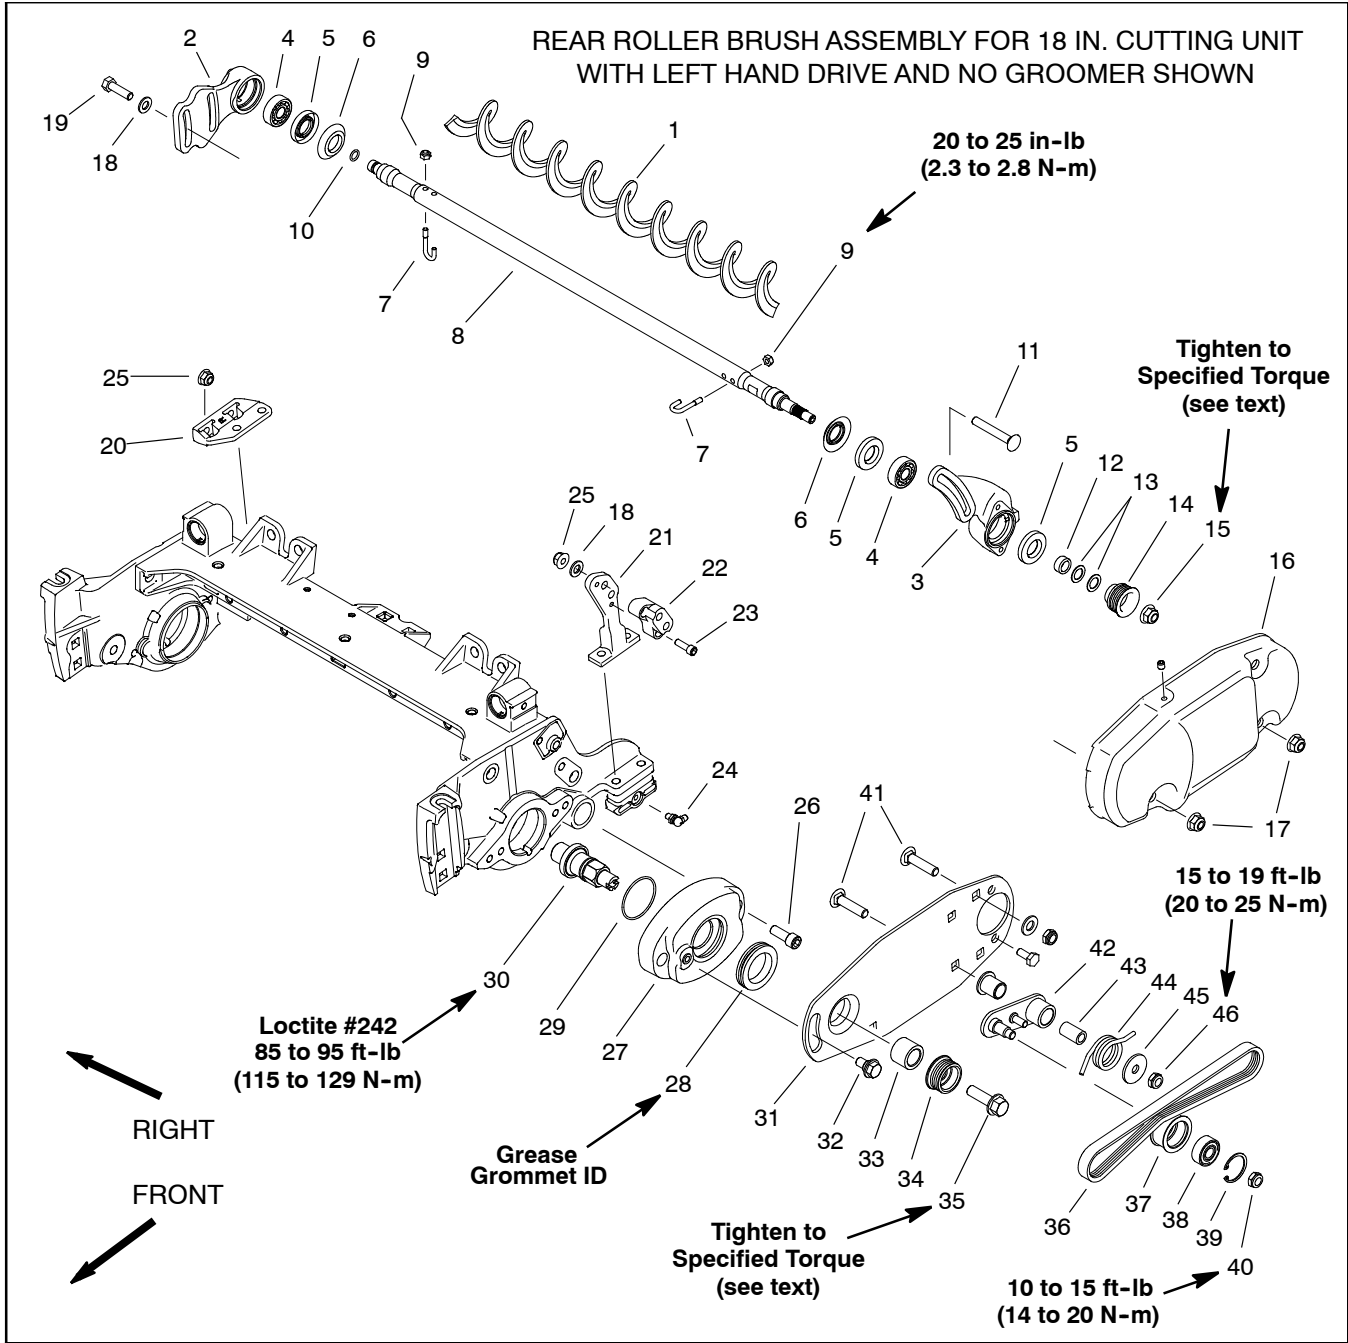

Figure 54
Rear roller brush drive components are located on the opposite side of the cutting unit from the cutting unit hydraulic motor. Figure 54 shows components used when the brush drive is on the left side of the cutting unit.
### Disassembly (Fig. 54)
### Assembly (Fig. 54)
3. Assemble roller brush components (Fig. 54).